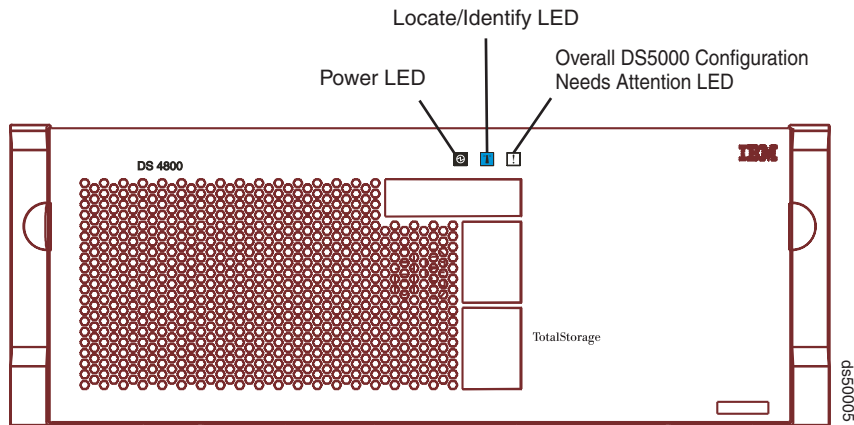

Figure 121. Overall Configuration Needs Attention LED on the DS5100 and DS5300 front bezel
2. Locate the storage subsystem that contains the interconnect-battery unit with the failed battery by checking the Overall Configuration Needs Attention LED on the front bezel of the storage subsystem. (Figure 121 on page 192 shows the location of the Overall Configuration Needs Attention LED on the front bezel.)